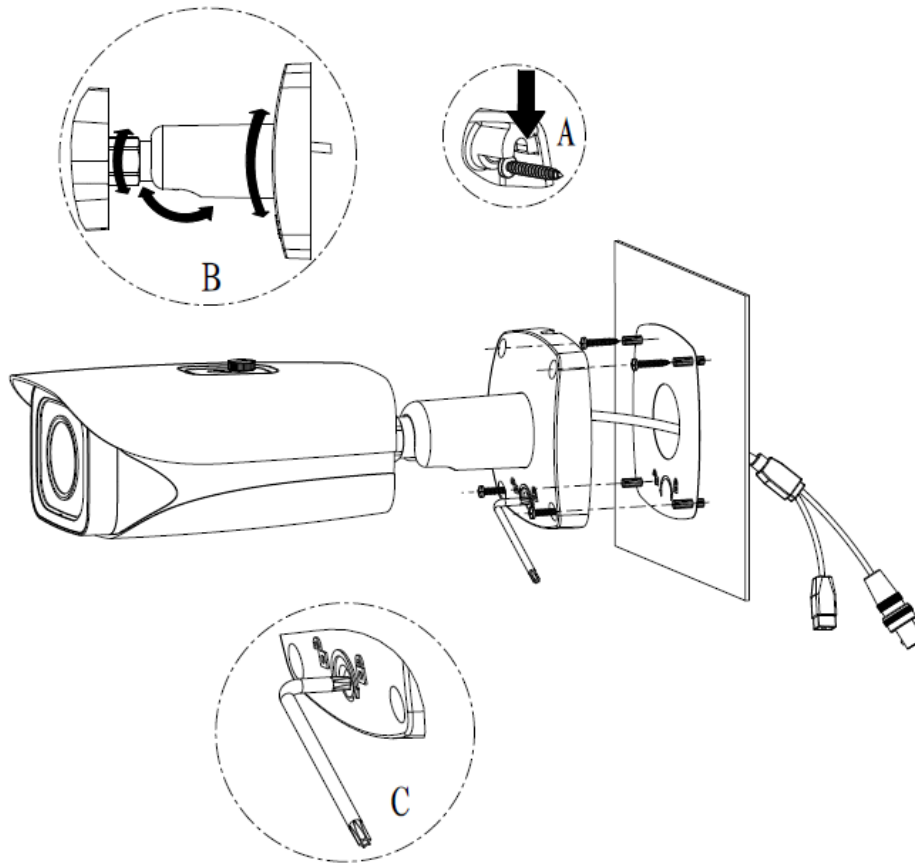

Figure 3-1
- Please install the expansion bolt if you want to install in the cement wall (Please make sure the installation holes of the expansion bolts are the same with the bracket.) Then you can install the bracket. See Figure 3-1.
Put the two self-tapping screws to the two expansion blots at the top left and the top right. Secure the bracket on the self-tapping screws. See (A) in Figure 3-1.
Refer to Figure 3-1 to fix other two self-tapping screws and the secure. Now the camera is fixed on the installation surface.
Use the L wrench (provided) to loosen the adjusting screw to make the camera can monitor the corresponding surveillance zone. Use the L wrench to adjust the adjusting screw to fix the camera firmly. Please refer to (B) and (C) in Figure 3-1.